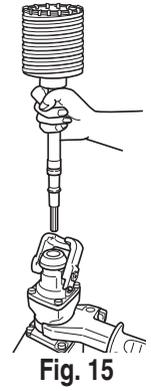
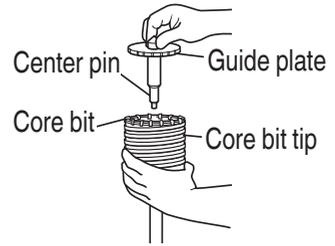

Fig. 15
Fig. 16
- (2) Mount the core bit shank to the rotary hammer (Fig. 15).
- (3) Insert the center pin into the guide plate until it stops.
- (4) Engage the guide plate with the core bit, and turn the guide plate to the left or the right so that it does not fall even if it faces downward (Fig. 16).